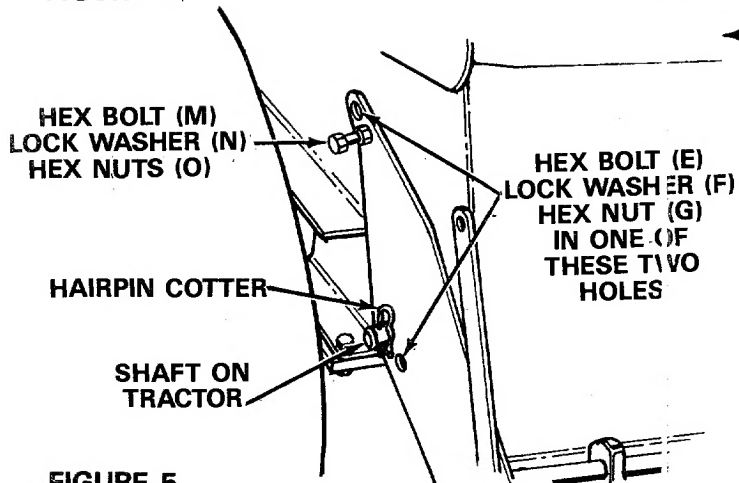

FIGURE 5
4. Place the support pivot bracket (with idler bracket and support arm attached) in position on the rear left hand side of tractor. See figure 5. Place large hole in pivot bracket over shaft on tractor. Secure with one hairpin cotter removed in step 3.
5. Thread one hex nut (O) all the way onto hex bolt (M) (1 1/2" long).
6. Align the holes in the support pivot bracket with the holes in the tractor frame. Secure the support pivot bracket to the tractor frame by placing hex bolt (M) (with hex nut attached) through support pivot bracket and hole in frame as shown in figure 5. Secure with lock washer (N) and hex nut (O), finger tight only.
7. If there is a 3/8" hole in the tractor frame down by the shaft on the tractor, insert hex bolt (E) through the hole in support pivot bracket and tractor frame. If no hole is there, insert the bolt through the hole in the top forward part of bracket and frame. Secure with lock washer (F) and hex nut (G).
8. Assemble the other support pivot bracket to the right hand side of tractor in the same manner, except use hex bolt (H) (1" long) instead of the longer hex bolt and the extra hex nut.